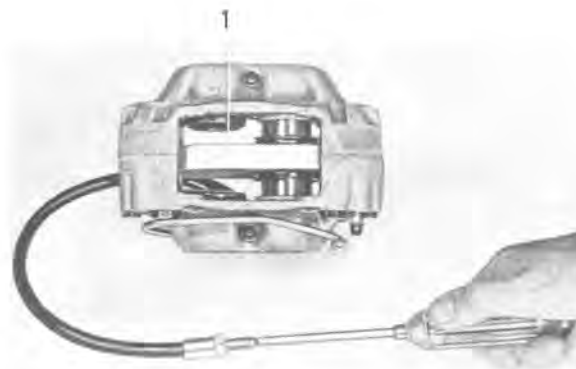
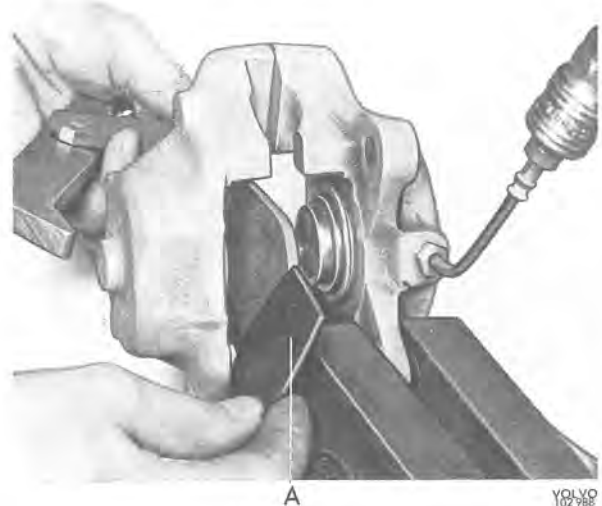

Fig. 5-22. Removing pistons
Fig. 5-28. Removing piston
and press them out against the wood with the help of compressed air, see Fig. 5-22. The pistons can then be easily removed. Should any piston be so stiff that more pressure is required, connect up an air line, see Fig. 5-28. Lever off the rubber dust covers.
4. Fit the rubber covers on the plunger and housing. Fit the lock rings, compare Fig. 5-28.
If any piston is so stiff that greater pressure is required, connect up an air line, see Fig. 5-28. If one of the pistons has been removed, the cylinder can be sealed with a rubber washer and SVO 2809 (see Fig. 5-28).